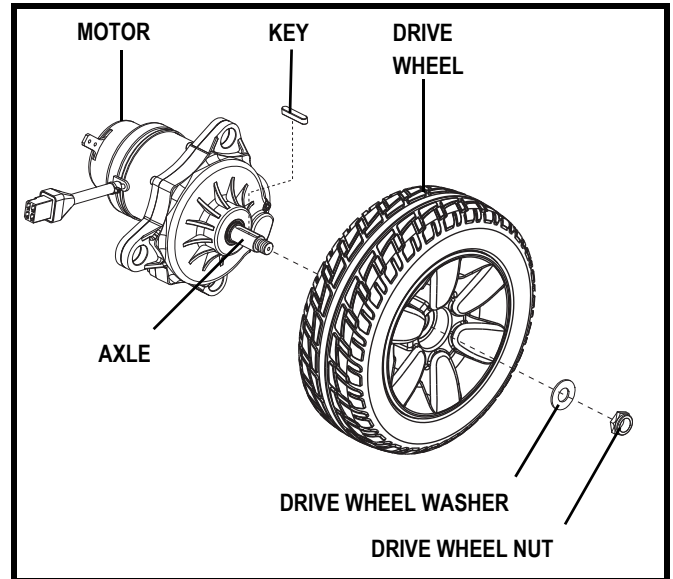

Figure 19. Jazzy Elite ES Series Drive Wheel Removal
4. Remove the drive wheel nut and washer from the axle. See **figure 19**.
8. Reinstall the drive wheel nut and washer onto the axle and tighten. See **figure 19**.